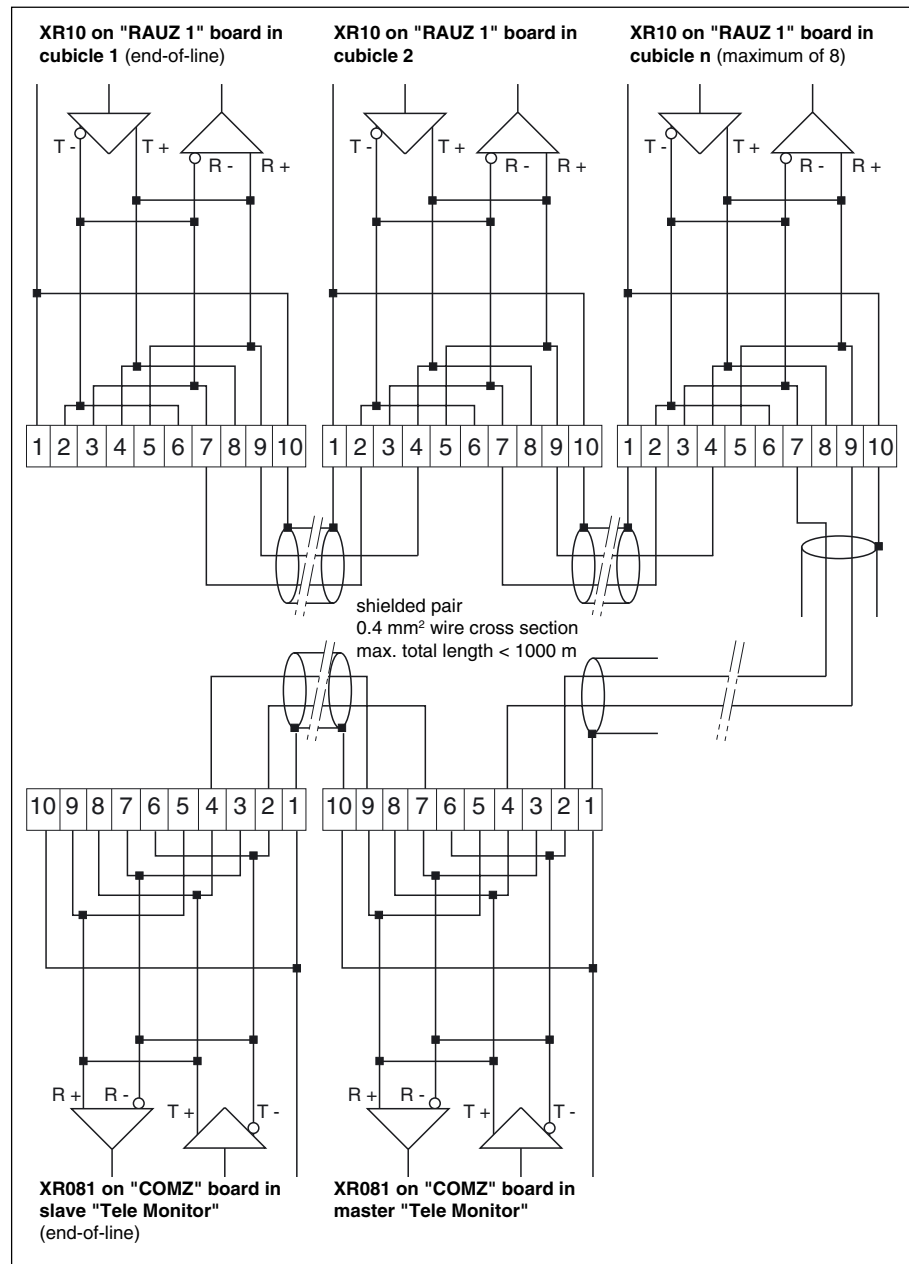

Fig. 8
- ▶ the 2 wire RS485 type network uses the XR10 connectors on the "RAUZ 1" boards in the cubicles and the XM081 connectors on the "COMZ" boards in the "Tele Monitors" according to figure 8;
Figure 8 gives an example of a system with 3 MGE™ Galaxy™ 6000 cubicles and 2 "Tele Monitors". This example can easily be changed to a different number of cubicles (between 1 and 8). A system may be equipped with either one or two "Tele Monitors".